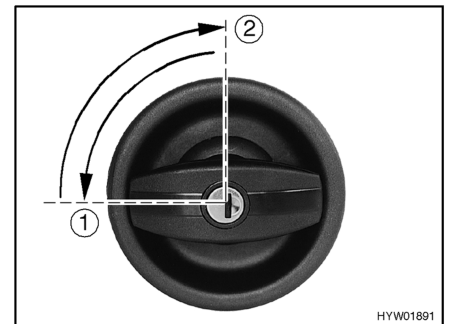

Fig. 12 Door lock of conversion door, outside, locking
- Insert the key into locking cylinder and turn a quarter turn in an anticlockwise direction (Fig. 12,1).
- Return the key to the central position (Fig. 12,2) and remove it.